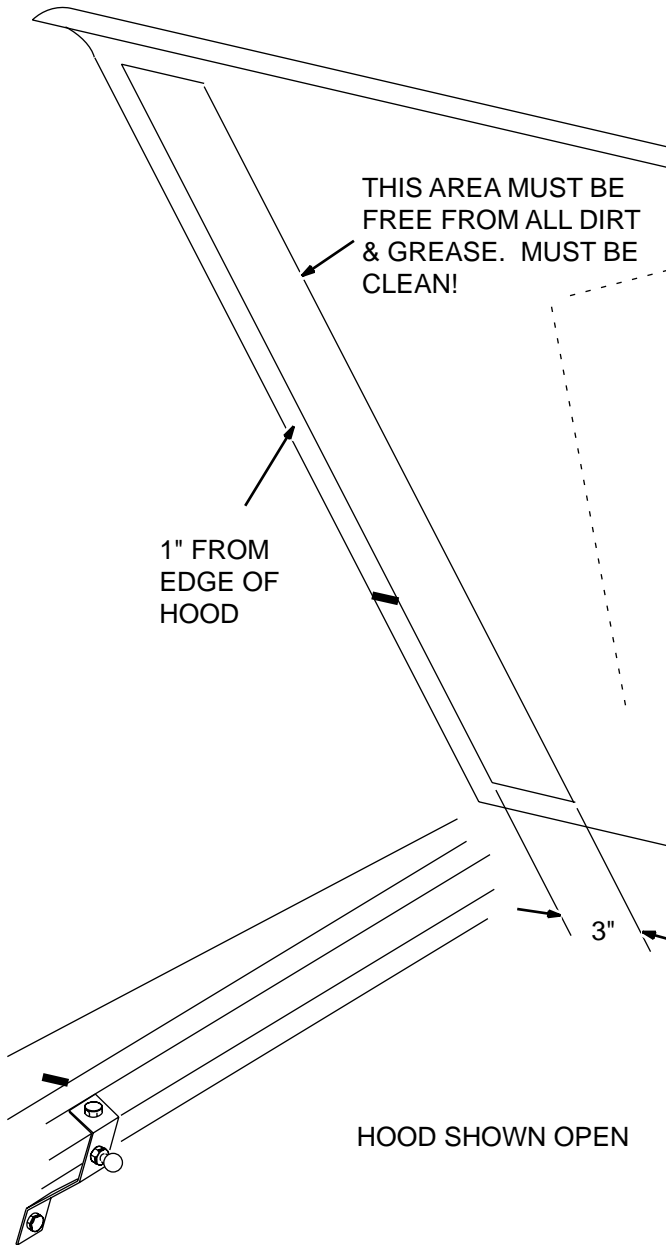

Figure 6
11. For the hood bracket/stiffener to mount properly, the hood must be very clean! Clean the entire outside edge of the hood, 3" wide, with lacquer thinner and let dry completely. Then clean the area with isopropyl alcohol and let dry completely. See Figure 6.